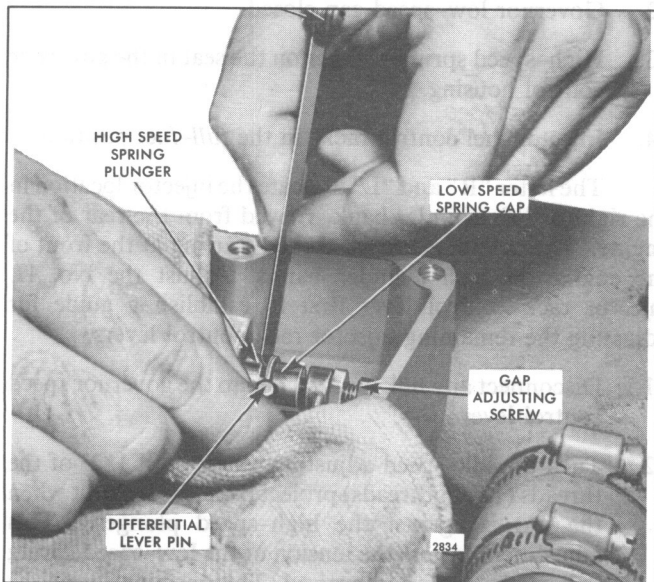

Fig. 6 - Adjusting Governor Gap
6. Check the gap between the low-speed spring cap and the high-speed spring plunger with a feeler gage (Fig. 6). The gap should be .002"-.004". If the gap setting is incorrect, reset the gap adjusting screw.